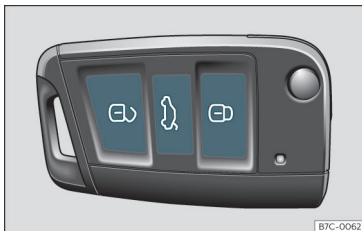

Fig. 74 Remote control key: buttons.
- Lock: press the  **Fig. 74** button.